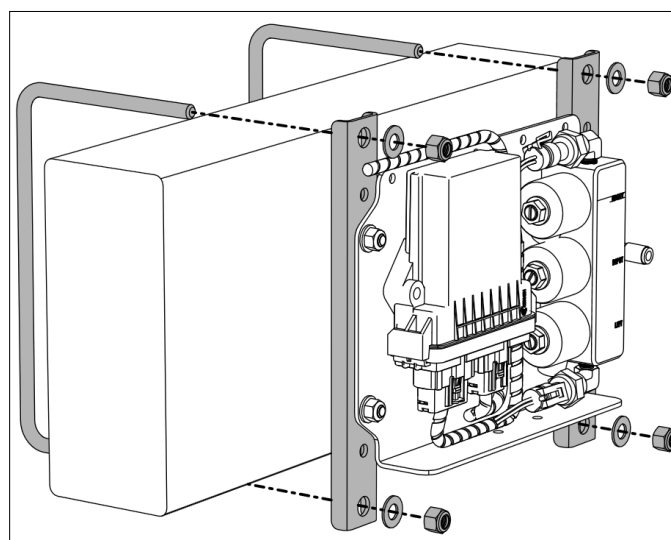

Figure 1C
- Check for clearance along the frame rail to ensure that the kit will not interfere with anything once installed. Refer to Figure 1C.
- Securely install the Control Board Assembly onto the frame rail of the vehicle using 2 U-bolts, 4 flat washers, and 4 nyloc nuts. Refer to Figure 1C.